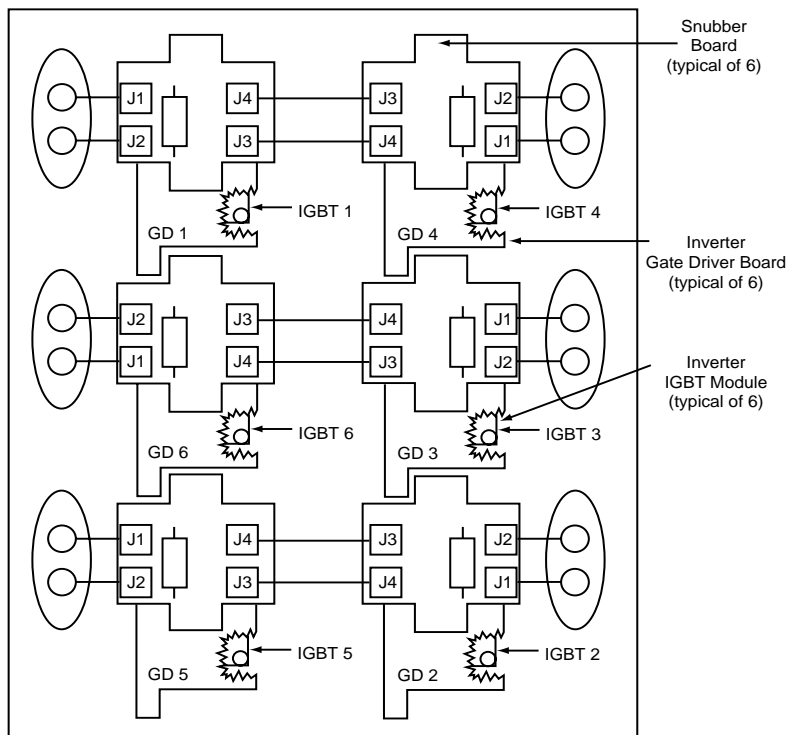

Figure 4.1.14: Inverter Gate Driver Board Locations
NOTE: Replace the gate driver boards in horizontal pairs (see Figure 4.1.14 on page 4.1.24): GD1 and GD4, GD6 and GD3, GD5 and GD2.
2. Using needle nose pliers, carefully disconnect the P2 connector on the gate driver board (see Figure 4.1.14 on page 4.1.24).
3. Align the mounting holes on the gate driver board with the mounting posts in the controller (see Figure 4.1.14 on page 4.1.24).